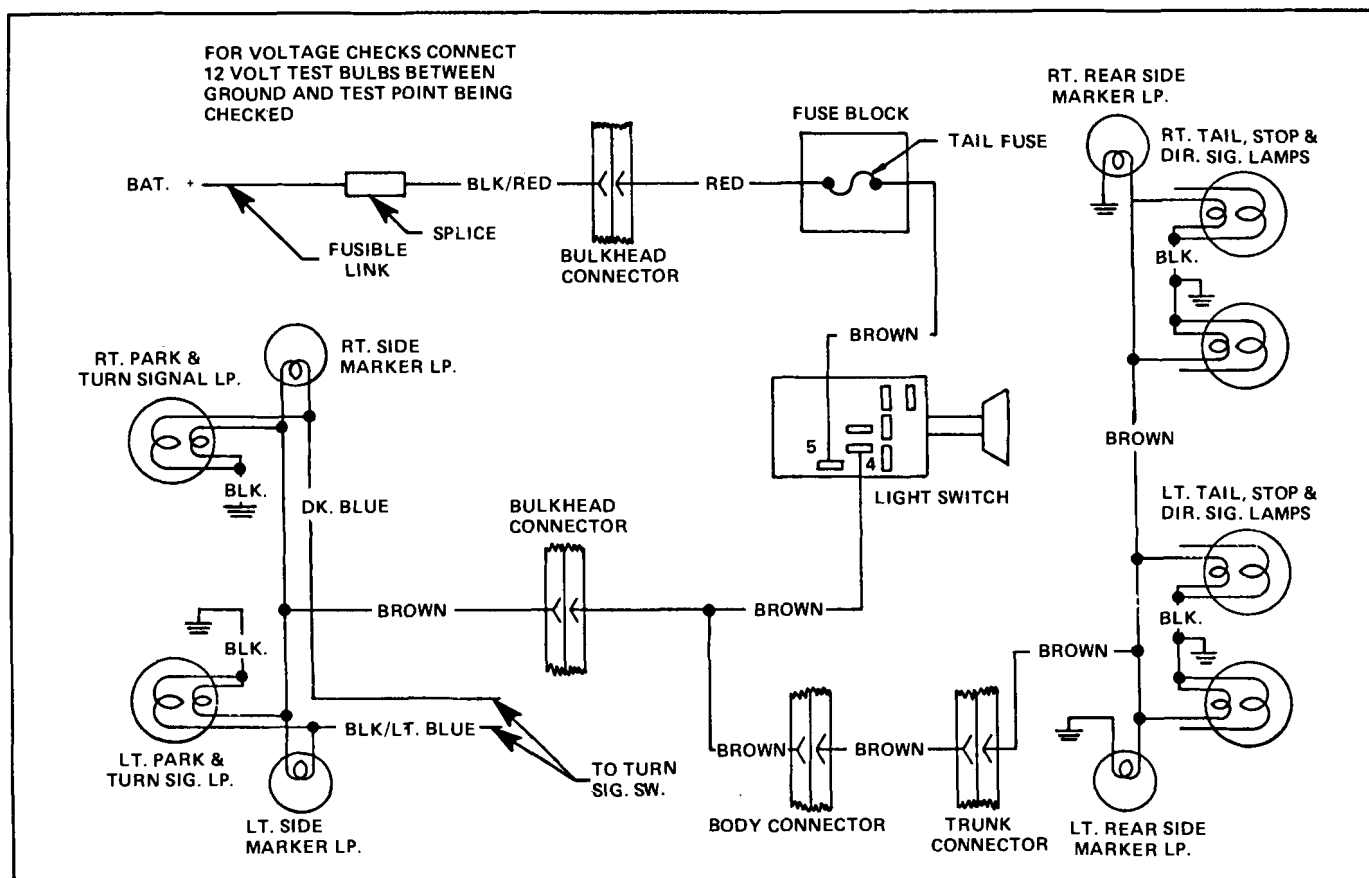

Fig. 12-20 Side Marker Lamp Circuit
*See side marker circuit (Fig. 12-20).